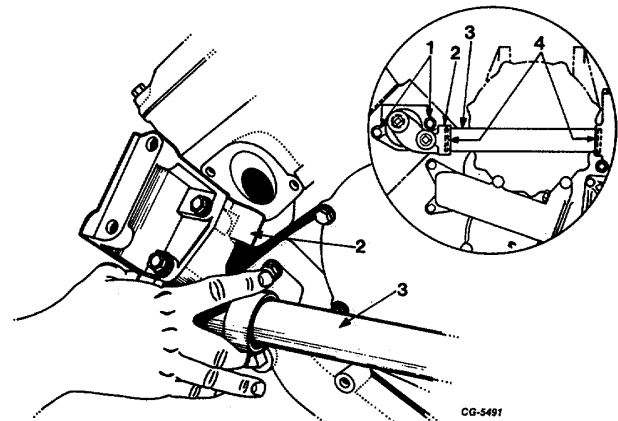

Fig. 26 Removing Water Outlet and Return Tube
19. To remove water outlet and water return tube, remove two bolts from water outlet and remove assembly from cylinder head and water pump housing (Figure 26).